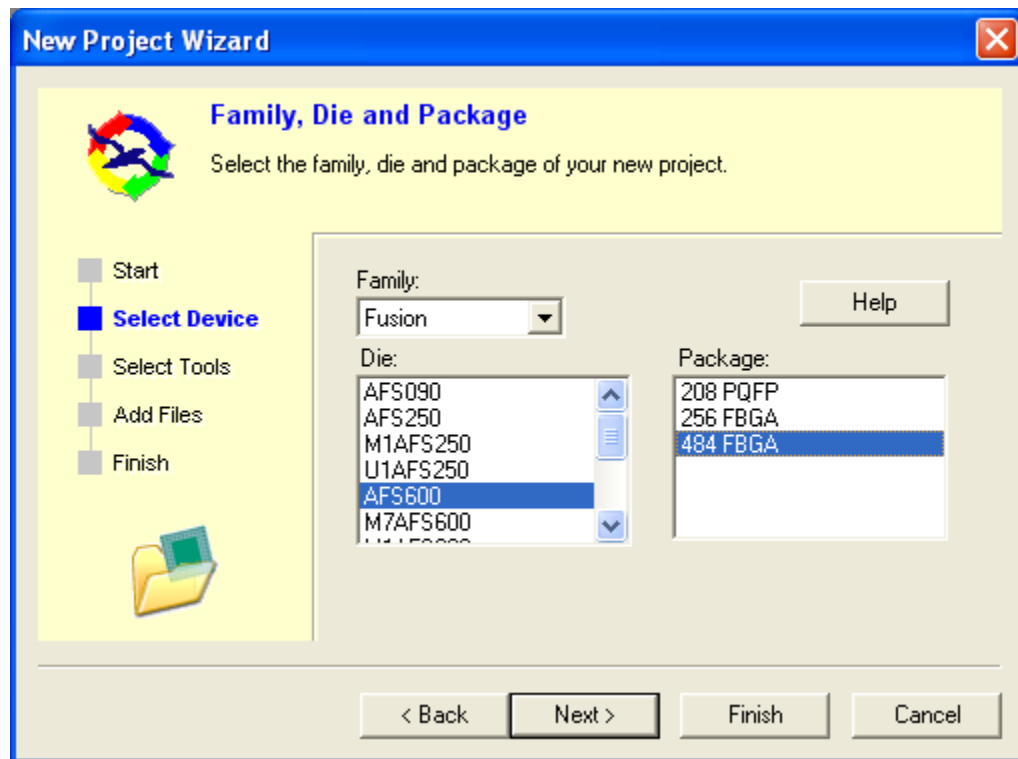

Figure 9-3 • Select Family, Die, and Package
- Click **Next** and on the next screen choose **Fusion** for the Family and select the **AFS600** die and the **484 FBGA** package, as shown in Figure 9-3.